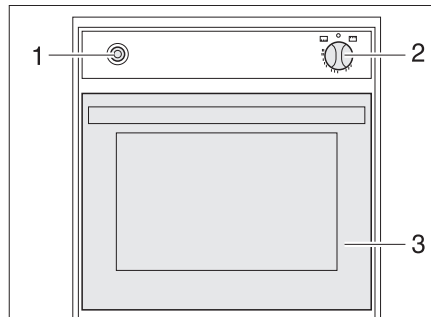

Fig. 324 Gas oven (Spinflo)
- Fully open the oven flap (Fig. 324,3).
- Lightly press control knob (Fig. 324,2) and set to "🔥" (oven) or "GRILL" (grill).
- Press the control knob (Fig. 324,2) and hold it down for 5 to 10 seconds. Gas will stream into the burner.
- Press the ignition switch (Fig. 324,1) repeatedly until there is a flame.
- Turn the control knob (Fig. 324,2) to "O". The flame fades.